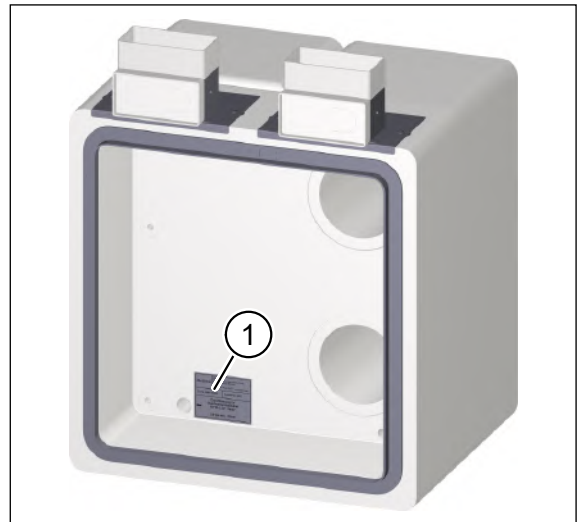

Fig. 4: Nameplate beside cable inlet
- beside the cable inlet for the mains cable (item 1 in Fig. 4)